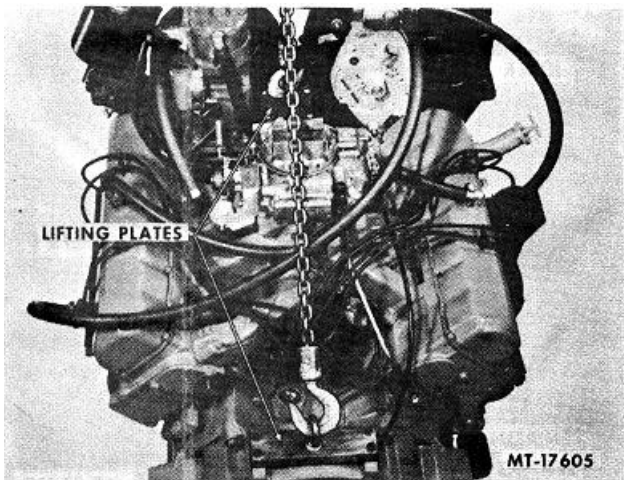

Fig. 5 Engine Lifting Sling
30. Install lifting sling on engine (Fig. 5).